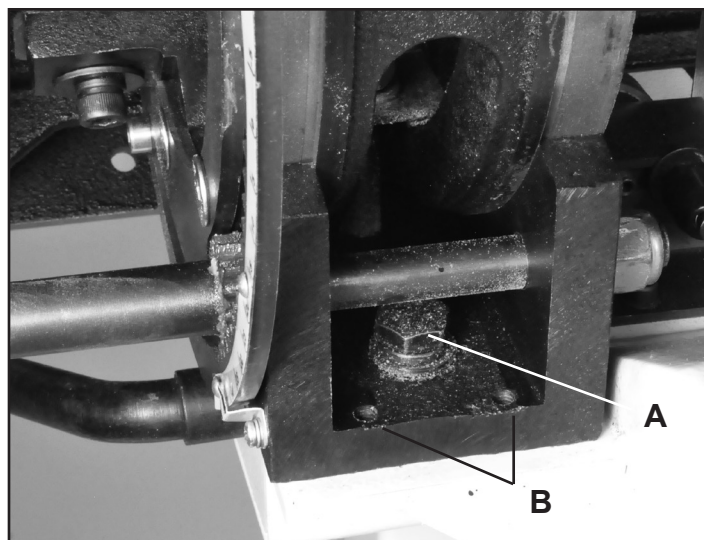

FIGURE 13
1. On the lower Trunnion Support (#28C), slightly loosen the two Hex Bolts (#39C) that hold the support to the bandsaw frame. Fig. 13, A.
3. Using the 3mm hex wrench, turn the rear trunnion micro adjusting hex screws (#23C) to adjust the table position. Fig. 13, B.